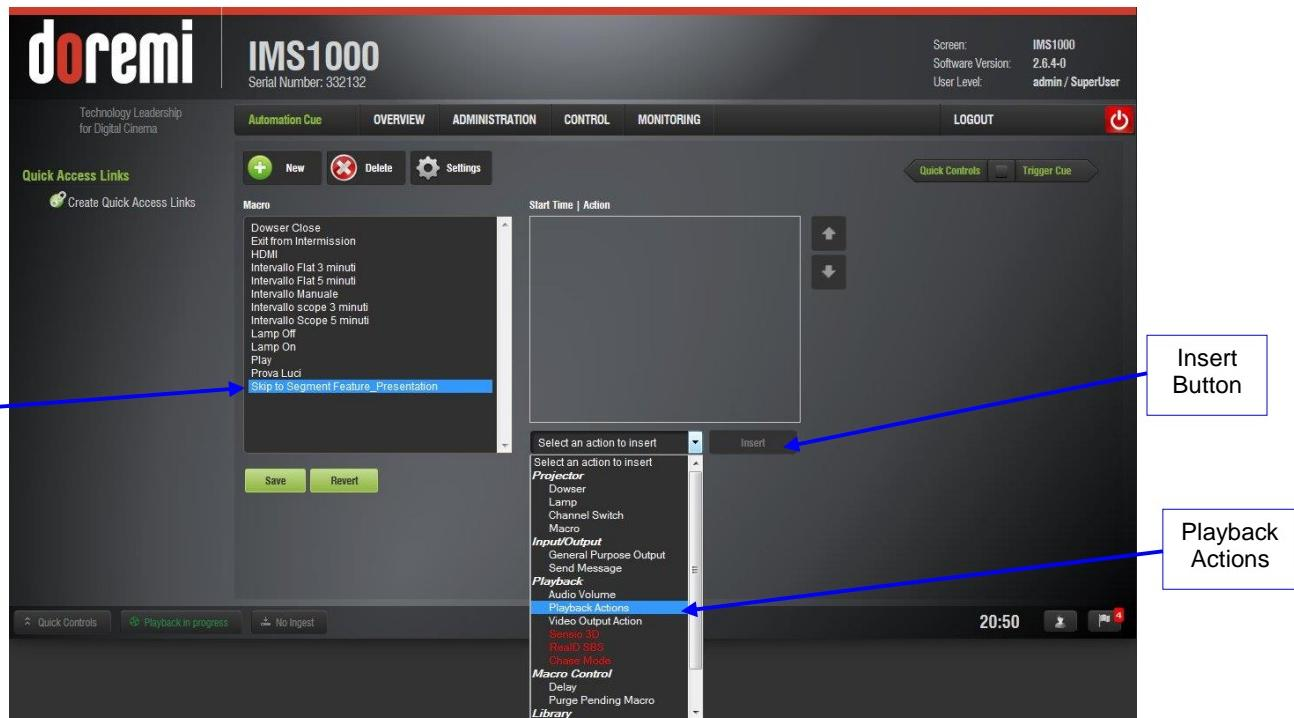

Figure 248: Macro Added
- The macro will appear in the window. Highlight the macro and click on Select an Action to Insert (Figure 248).
- In the window that appears, go to Playback, then Playback Actions, and click Insert (Figure 248).